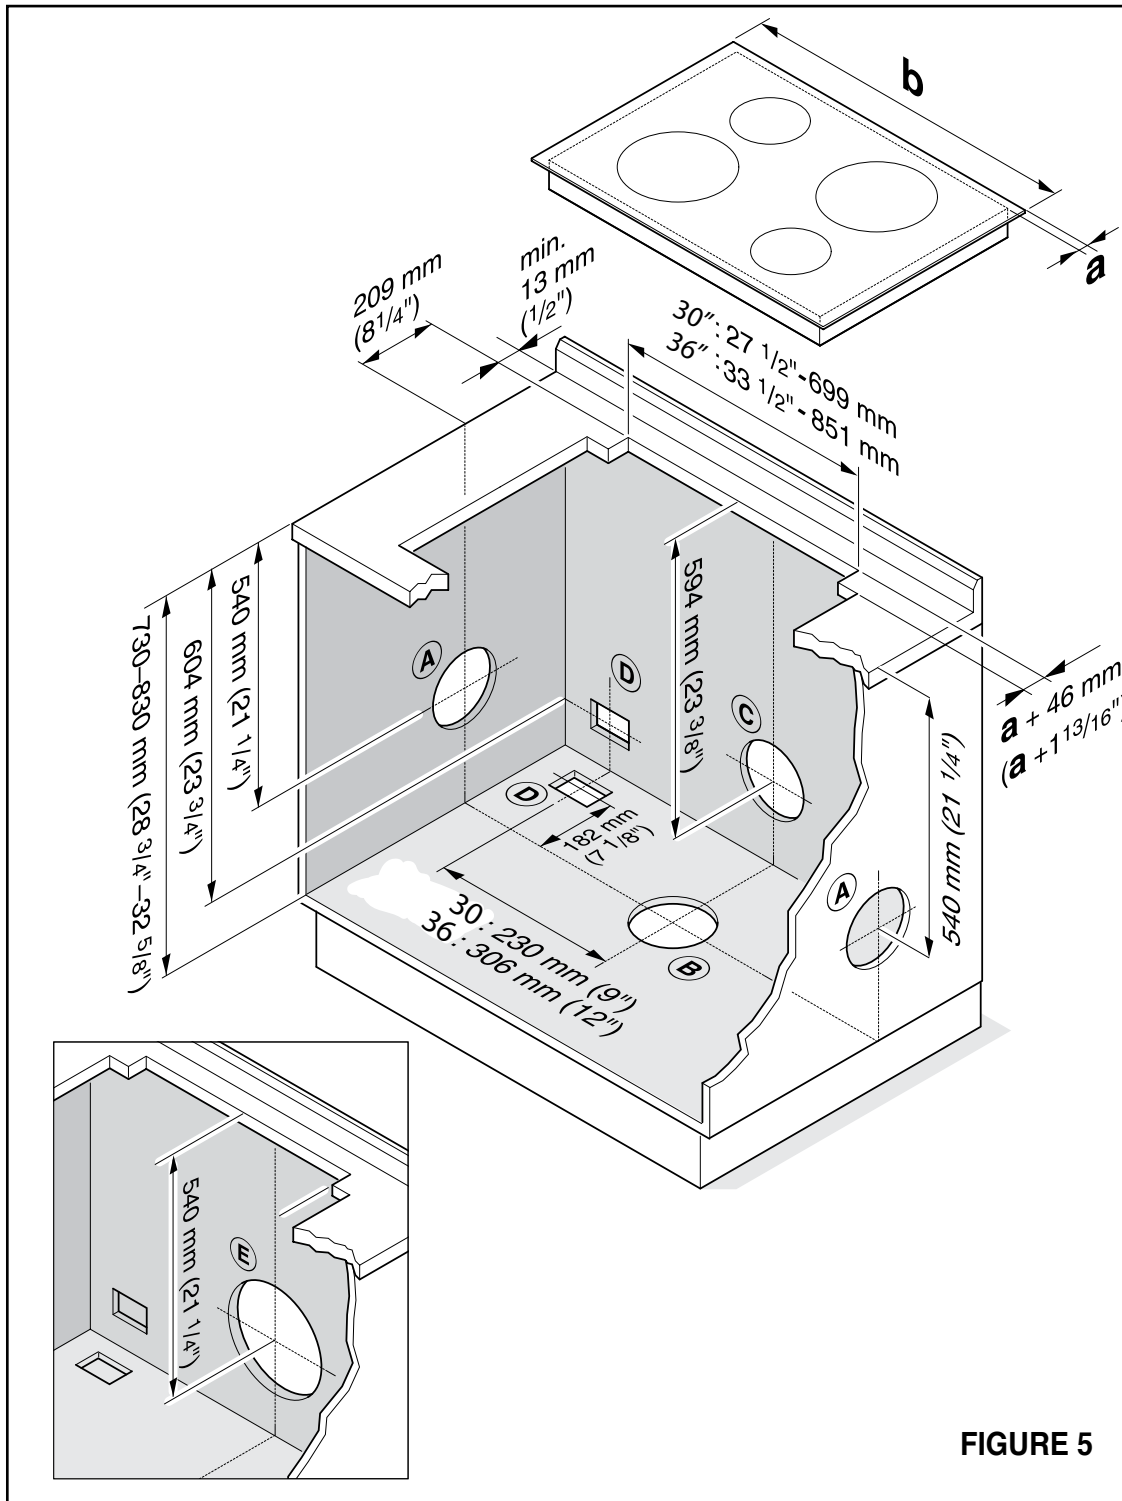
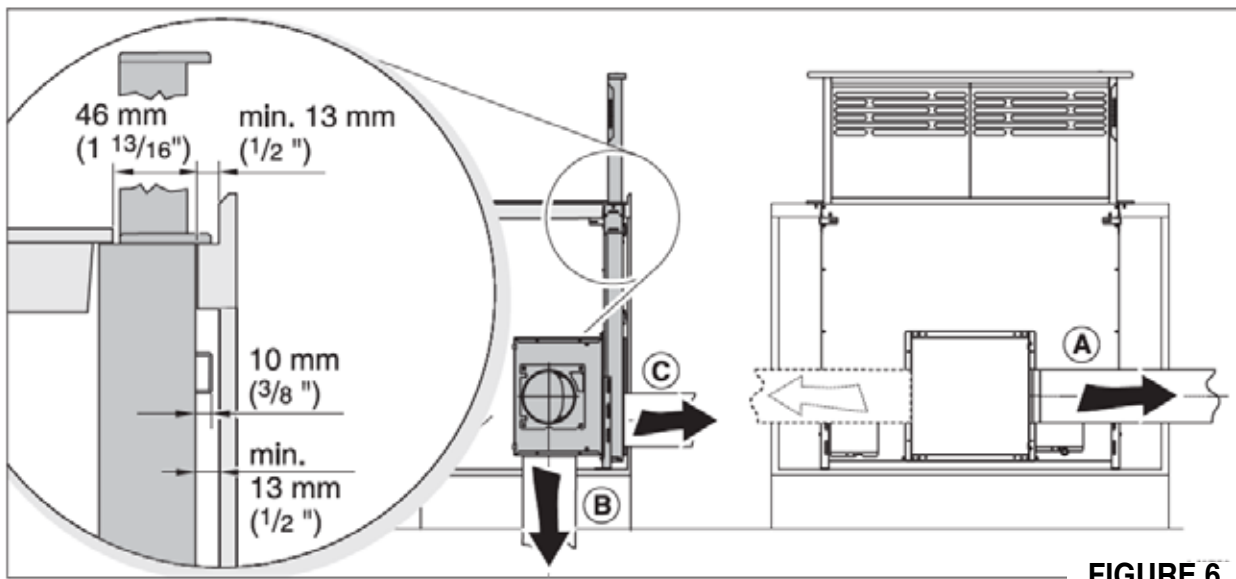

FIGURE 5
FIGURE 6
See the previous page with FIGURE 5, and FIGURE 6 above for reference. When using the IB500 internal blower installed on the front of the appliance use 6" Round ducting. Holes for ducting are shown on FIGURE 5, 6: (A) to the left or right (B) downwards, (C) to the rear. If the blower is being installed to the rear of the appliance, a cut-out must be made in the rear of the cabinet or wall where it will be mounted and the appropriate clearances must be maintained behind the cabinet.
See FIGURE 5, (D) Feed the power cord and control cable downwards or to the rear when using an remote blower.
See FIGURE 5 (E) When using the remote blower, install 10" ducting to the rear. If installing the exhaust ducting to the front, appropriate clearances must be maintained in the cabinet.